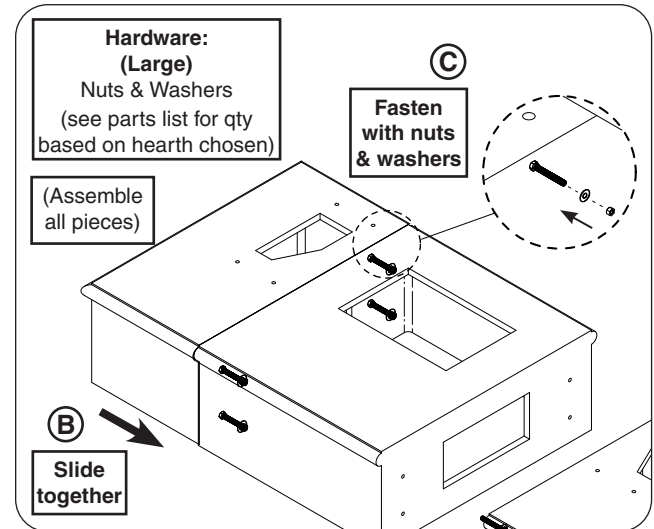

Fig. 22-2 Assemble hearth - slide together & fasten
3. Carefully slide the left outer-piece against the center piece while aligning the pilot holes. Then reach into the center hearth (through access opening), place the washers and nuts, and hand tighten. See Fig. 22-2.